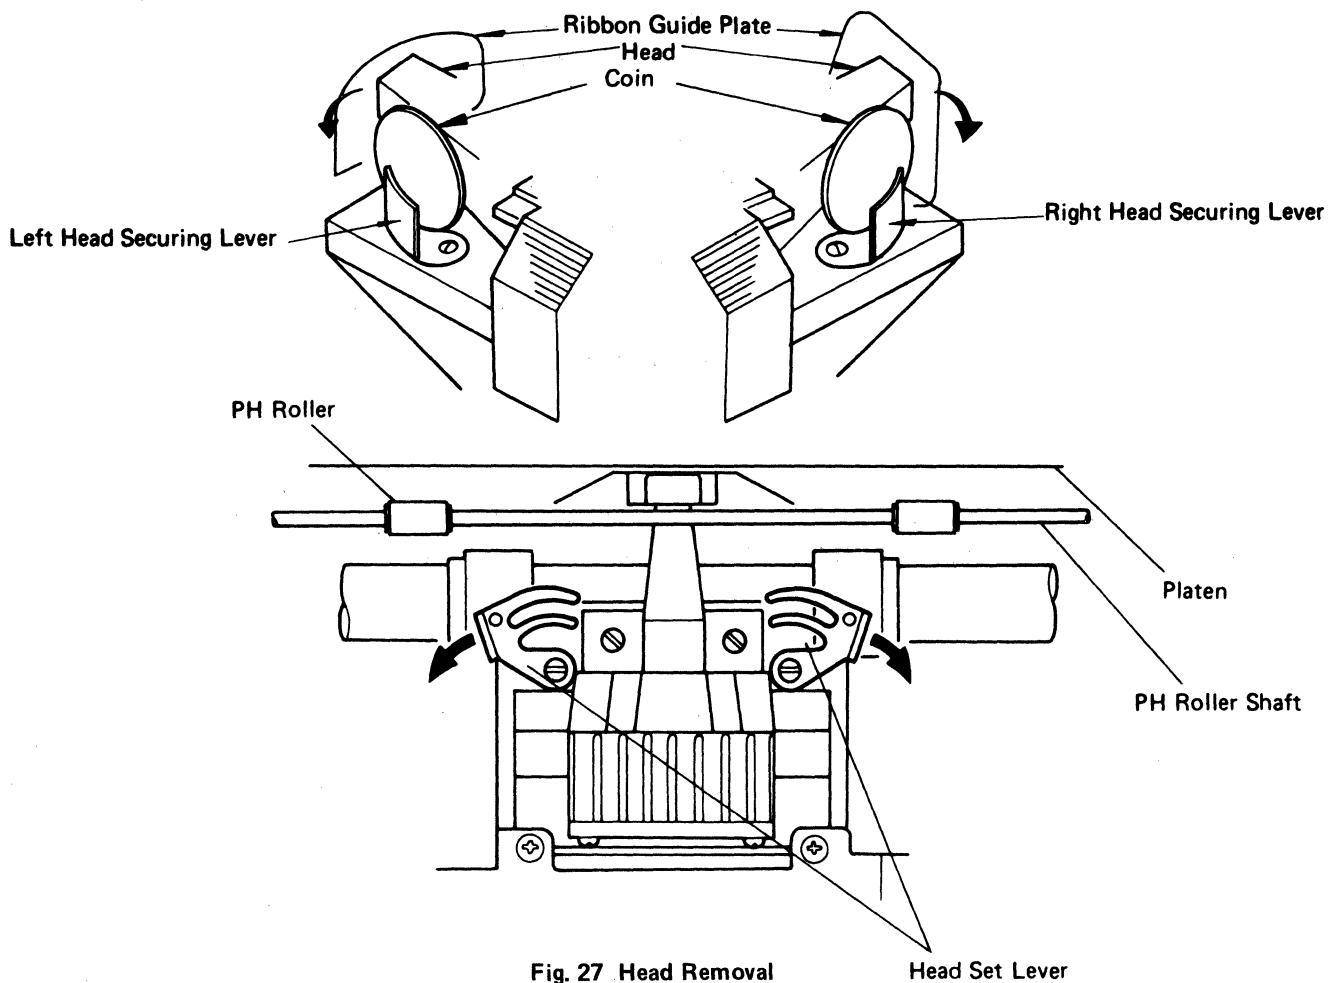

Fig. 27 Head Removal
- 1) Remove the carrier cover, and move the head to a position where no PH roller is fitted. (See Fig. 27 below)